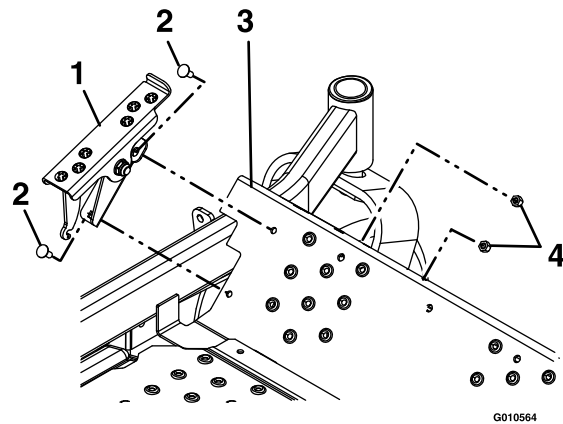

Figure 3
6. Install the foot pedal onto the toe board as shown in Figure 3.